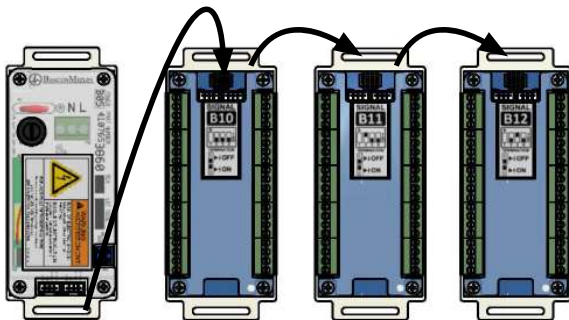

Figure 214: Daisy Chain of Power Supply
3. Connect the grey cable(s) provided; from the power supply to the white sockets on the I/O modules in a daisy chain manner (Figure 214).
**NOTE:** I/O Modules and Power Supply will need to be daisy chain connected via the grey cables supplied with each I/O module (See figure 214).